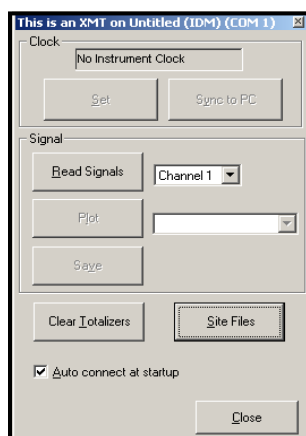

Figure 27: Properties Window
3. The *Properties* window appears similar to Figure 27. To clear the XMT868i totalizers, click on the **[Clear Totalizers]** button. The XMT868i totalizers are reset to 0.